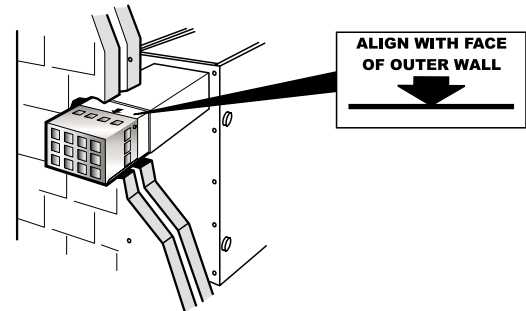

Fig. 23
- 10 **Important:** The stainless steel flue terminal must be located correctly to allow access to the terminal fixing screws. Ensure that the marker on the outer wall sleeve is aligned with the face of the outer wall. See Fig. 23.